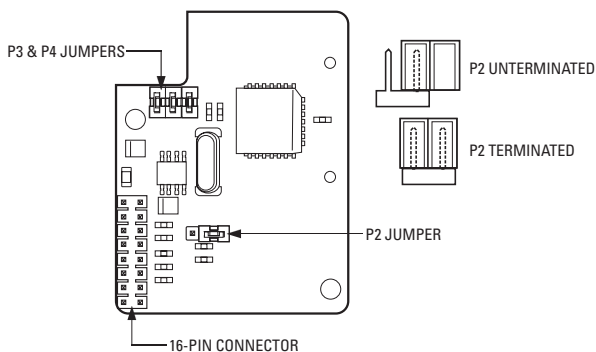

Figure 2. TXB-V Termination and Baud Rate (Bottom View)
5. Set the P2 jumper on the TXB-V to the proper termination setting (refer to Figure 2). Note the following: